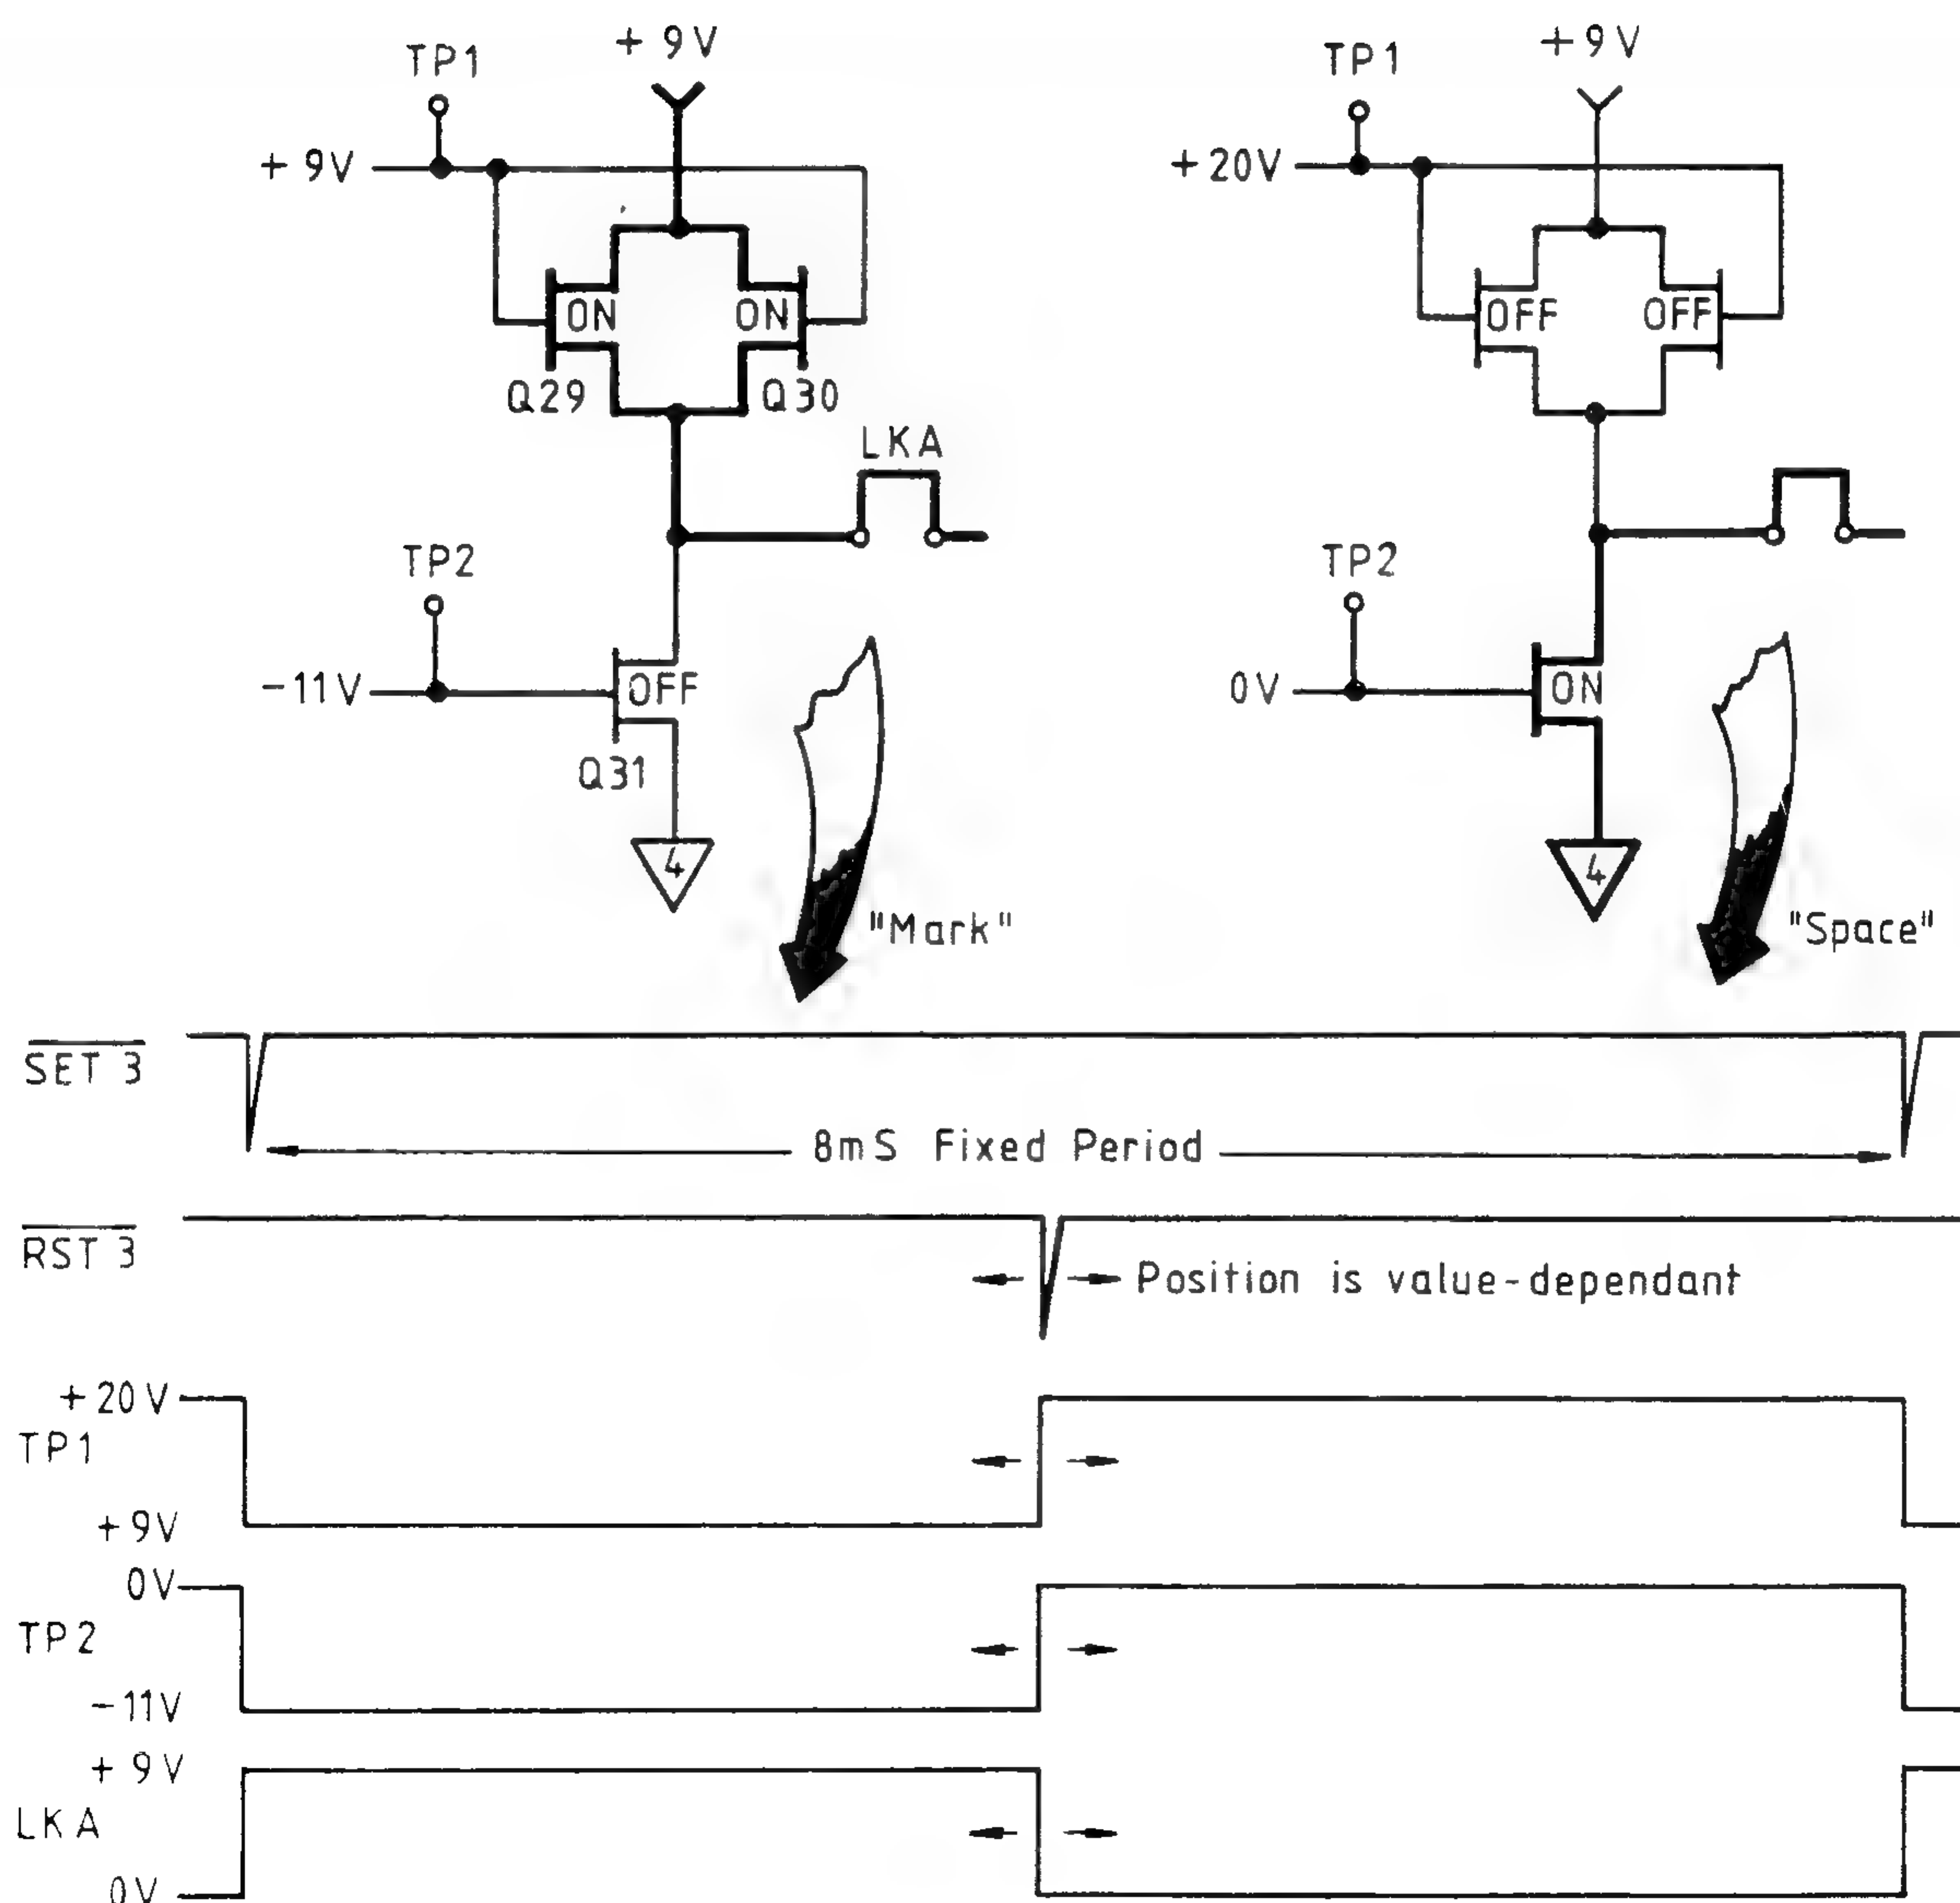

FIG. 6.26 ACTION OF LSD SWITCH
6.5.6 LEAST-SIGNIFICANT-DIGITS SWITCHING (Fig.6.26)
Q5-Q8 form a fast bistable using emitter-coupled logic, to switch TP1 between +9V (mark) and +20V (space). During the "Mark" time after SET 3 pulse, Q29 and Q30 are switched ON, connecting LKA to +9V Ref. Q1-Q4 have the same bistable action as Q5-Q8, switching Q31 off during the "Mark" period by -11V at TP2, thus disconnecting LKA from Common-4 (0V). During the "Space" time after $\overline{\text{RST 3}}$ pulse, Q29 and Q30 disconnect LKA from +9V Ref, and Q1-Q4 switch Q31 on, connecting LKA to Common-4 (0V). Fig.6.26 demonstrates this action.